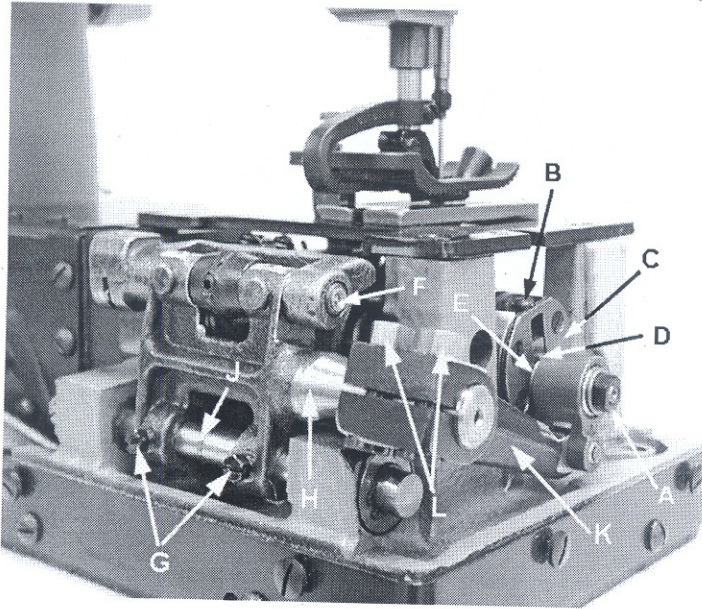

Fig 12
Right to left adjustment can be made by loosening screws (G, Fig. 12) and slightly move feed rocker (H) on feed rocker shaft (J) as required, then retighten screws. Check to ensure that feed rocker arm (K) does not bind after adjustment.
Forward or rearward centering of feed dog can be accomplished by loosening nuts (L, Fig. 12), move feed rocker (H) as required and retighten nut.
Set the stitch to required length. This is accomplished by loosening lock nut (A, Fig. 12) 1/2 turn, (it has a left hand thread) on the end of the stitch regulating stud and turning stitch adjusting screw (B) located under the left end of the cloth plate in the head of the mainshaft (C), which is marked with "L" and "S". Turning the screw in a clockwise direction shortens the stitch (moves stitch regulating stud toward the "S") and turning it in a counterclockwise direction lengthens the stitch (moves stitch regulator stud toward the "L"). Retighten the lock nut securely. To prevent destructive damage to the feed drive bearing, key screw (D) must engage the "U" shaped key slot in ferrule (E).
Grease fittings have been added to both ends of feed bar shaft (F, Fig 12). It is advisable to add #2 bearing grease at these points every month using grease gun AS60-187. A can of grease can be ordered under part number GR18.